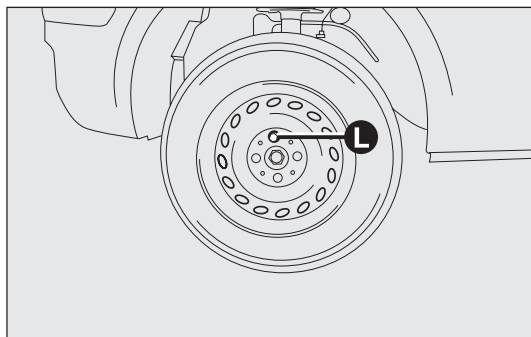

fig. 128
- ☐ fit the standard wheel by inserting the first bolt L - fig. 128 into the hole close to the inflation valve;